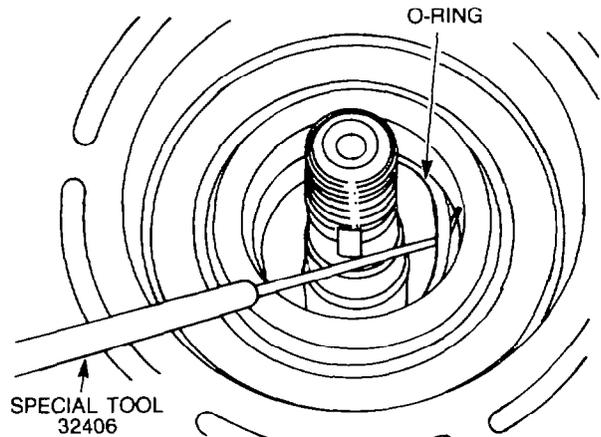

Figure 28 — Front Housing O-ring — Removal
- l. Using special tool 32406, remove the O-ring from the front housing (see Fig. 28).